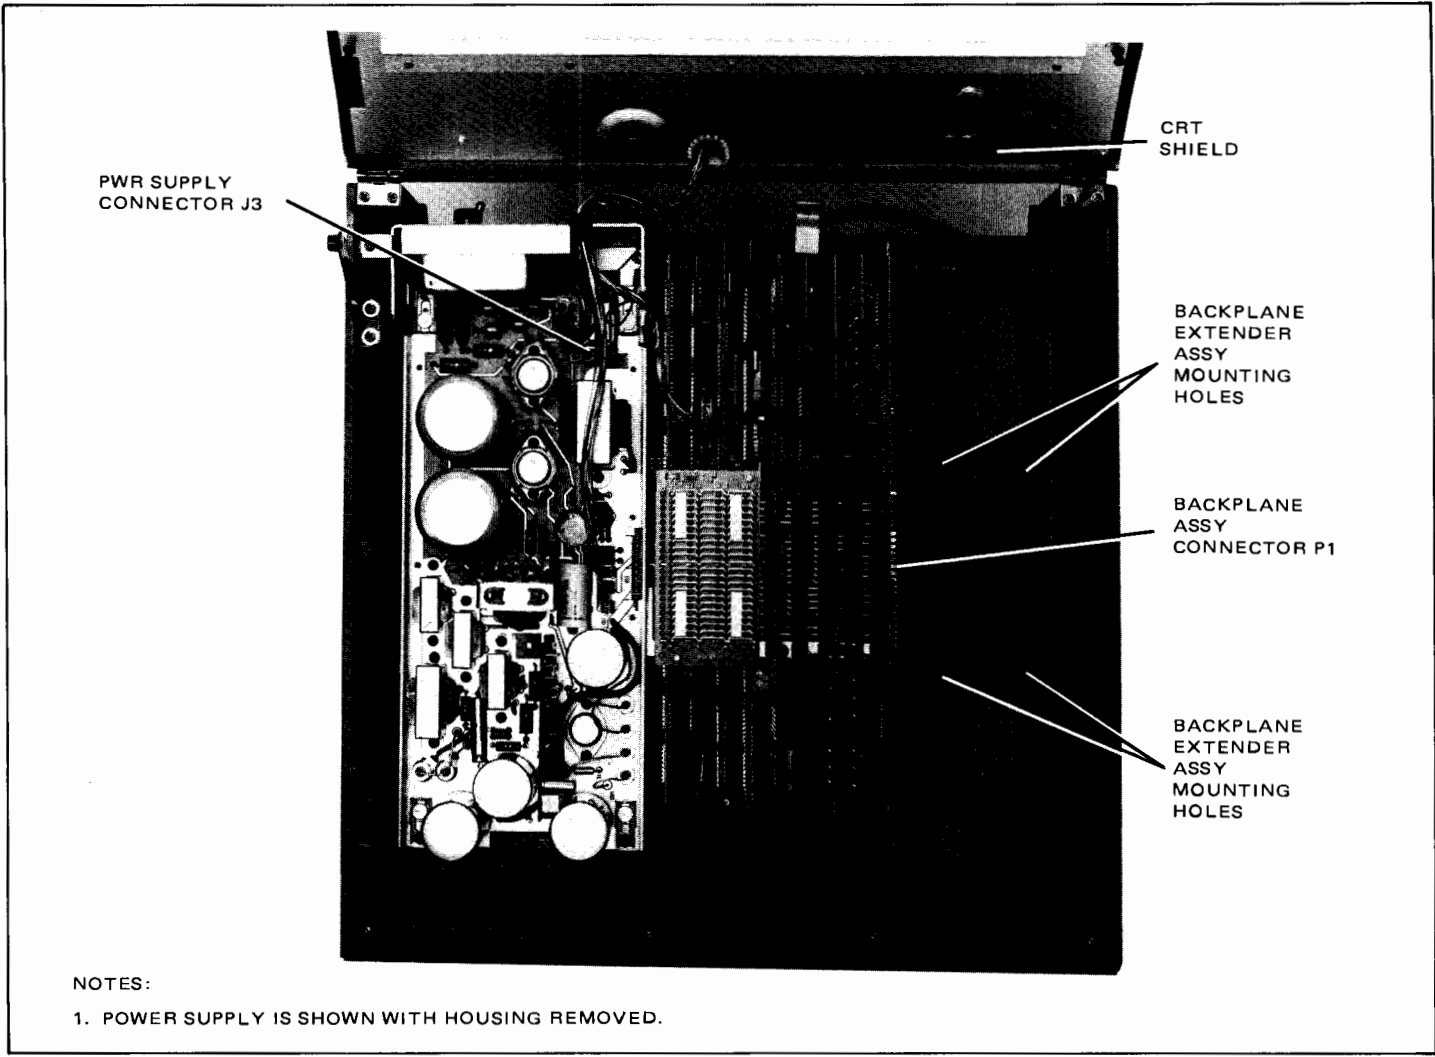
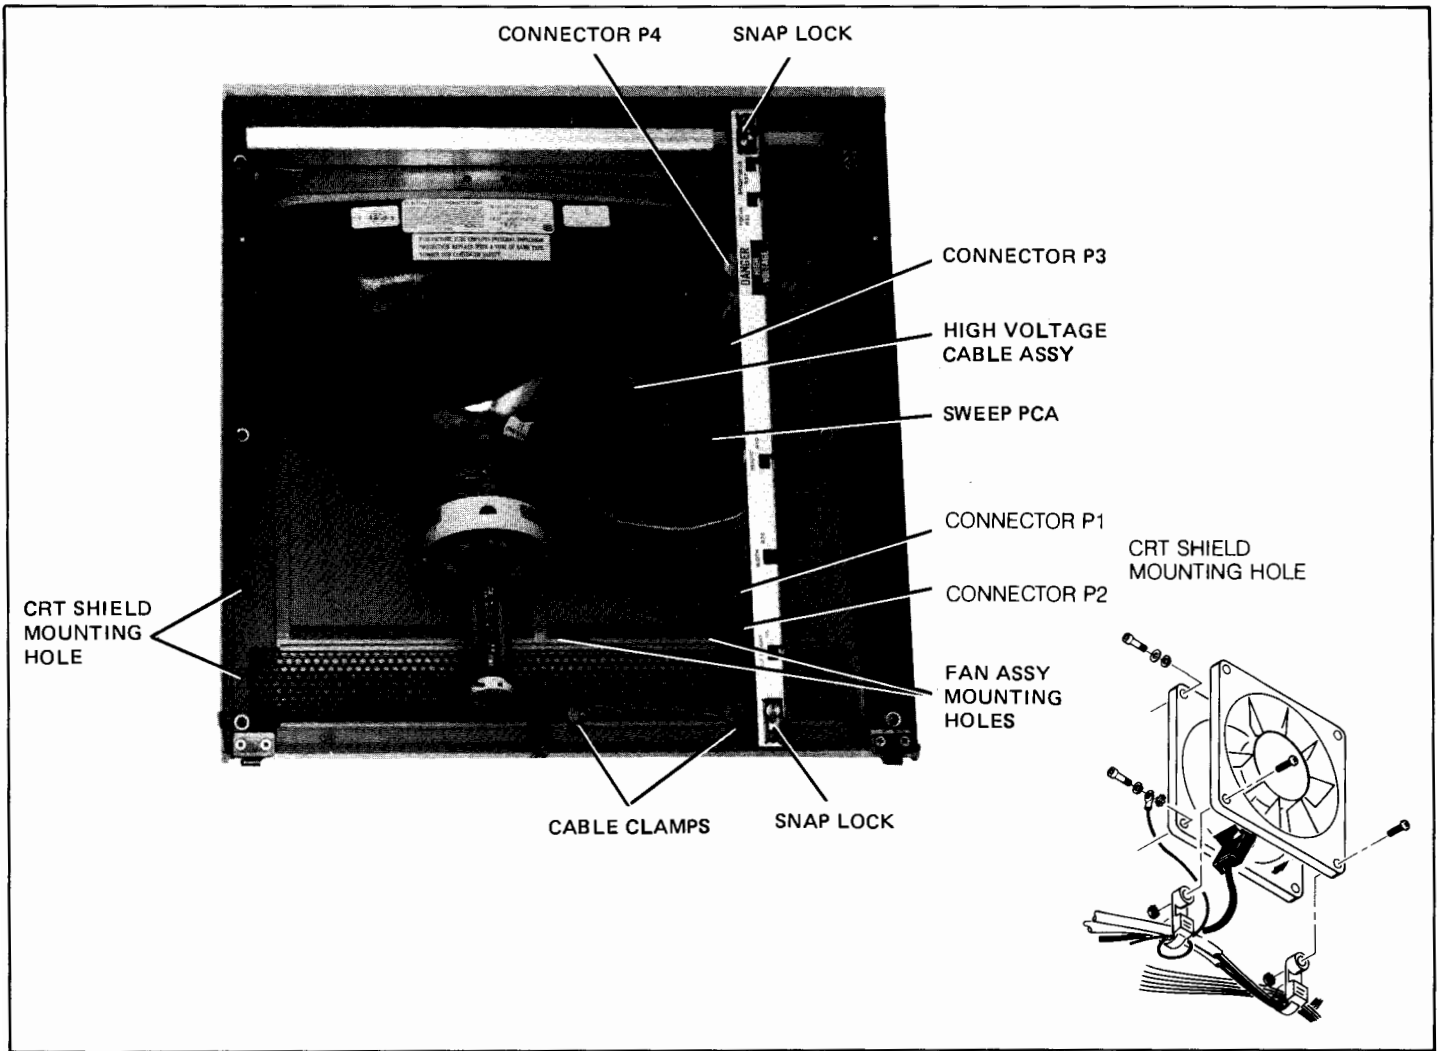

Figure 2-26. Mainframe Bottom Part Locations (2640A/B/N/S)
Figure 2-27. Mainframe Top Part Locations (2640A/B/N/S)
2. The CRT shield (see figure 2-26) is secured in place with snap fasteners. Remove CRT shield by pulling fasteners out of top cover mounting holes (see figure 2-27) and sliding toward the front of the CRT.
8. Carefully connect connector J16 of backplane extender, part no. 02640-60002, to backplane connector P1 (see figure 2-26).
10. Visually align mounting holes with the four mounting holes (see figure 2-27) in mainframe top cover.
13. Connect fan cable connector to Power Supply PCA connector J3 (see figure 2-26) and route cables back to fan with existing wire harness. The cable should be placed inside the first (left) cable clamp along with the existing harness. See figure 2-27.